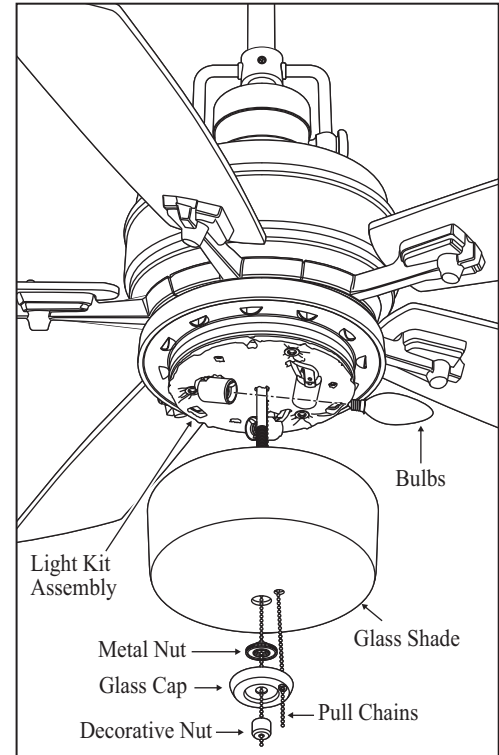

Figure 16
5. Remove the decorative nut, glass cap and metal nut from the light kit stem. Raise the glass shade up against the mounting plate and secure it with the metal nut. (rubber side on the top) Do not overtighten. Place the glass cap over the light kit stem and secure it with the decorative nut. (Fig. 16)
6. Insert the 2 pull chain through the eyelet in the shade and cap. Secure the glass cap and decorative nut provided (Fig. 16).